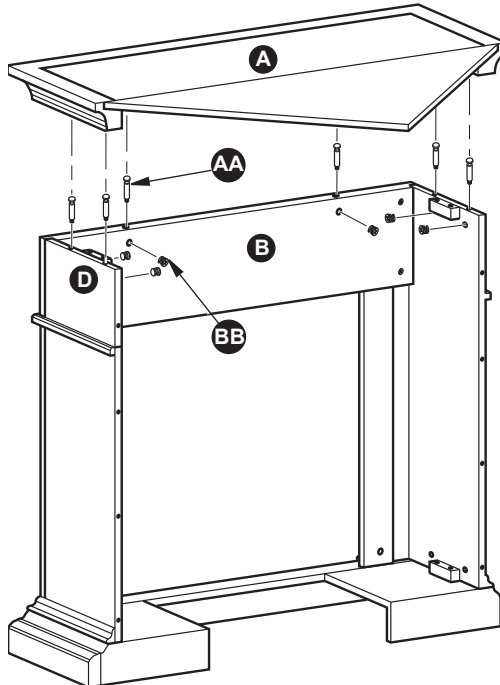

Figure 37
9. Insert 6) Cam Locks (BB) into Panel (B), the Left Upper Panel (C) and the Right Upper Panel (D). Screw 6) Cam Dowels (AA) into Top (A). Attach Top (A) into assembled frame by tightening the Cam Locks (BB) as shown in Figure 37.